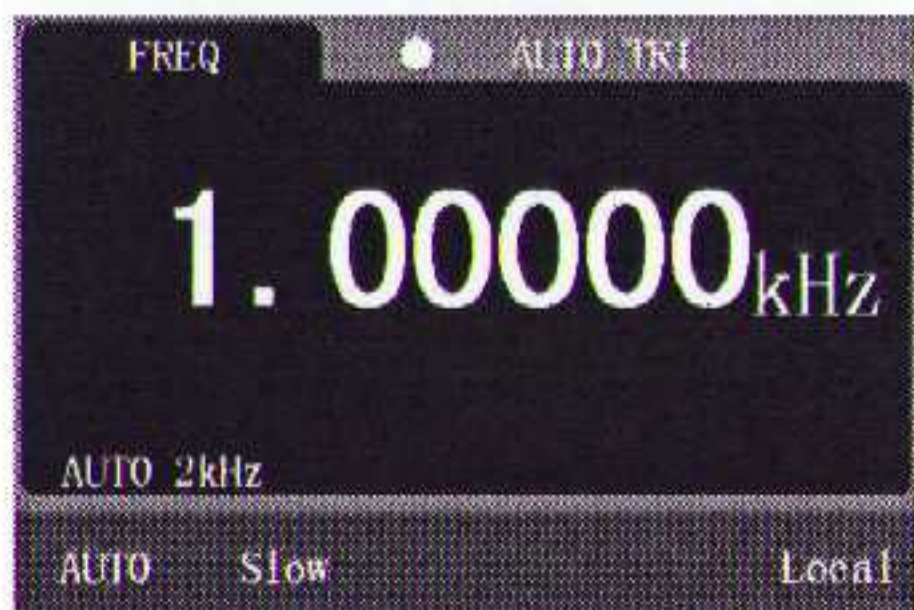

Figure 4-15 Measurement interface
1. Press  to select the frequency measurement function by default. The measurement interface is shown in Figure 4-15.